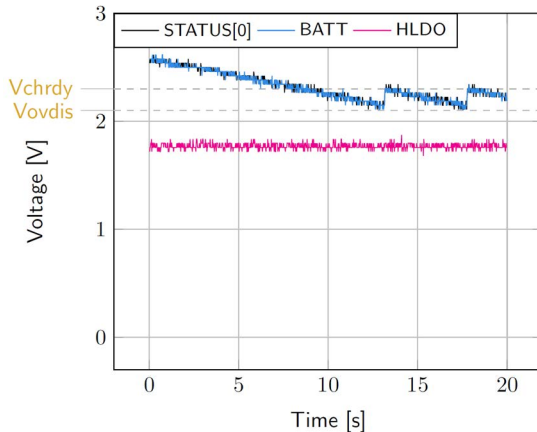

Figure 5: Switching from SRC to the primary battery
**BATT**: Voltage decreases as the system consumes the power accumulated in the storage element. The voltage reaches  $V_{OVDIS}$  and then rises again to **BATT** as it is recharged from the primary battery (see Figure 5).
**STATUS[0]**: Never de-asserted as the LDOs are still functional (see Figure 5).
**HVOUT**: Stable and not affected by switching on the primary battery (see Figure 5).